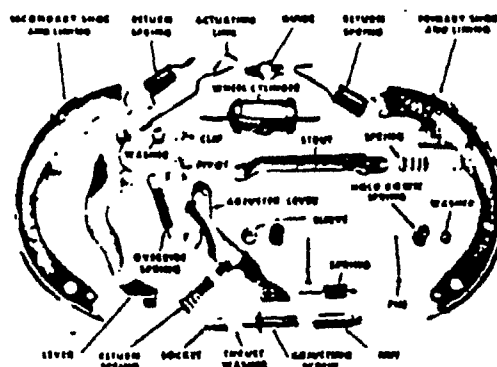

Fig. 18
7. Install the parking brake strut and spring. (see fig. 18)